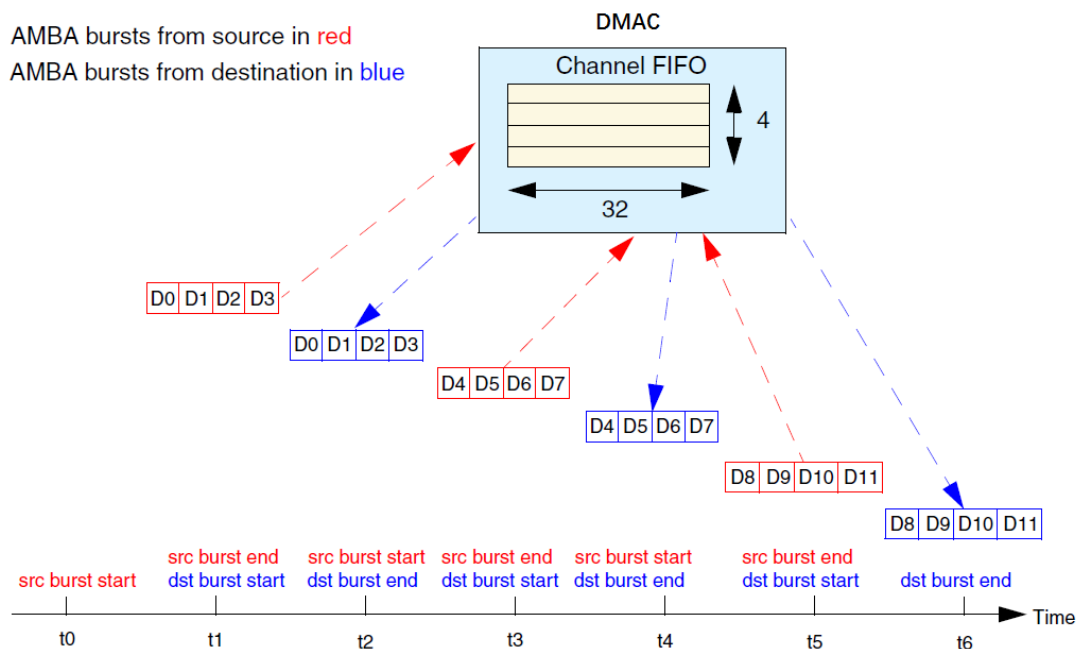

Fig 9-17 Breakdown of Block Transfer
Using equation (5), a total of 48 bytes are transferred in the block; that is, $blk_size_bytes_dma = 48$. As shown in Fig 9-17, this block transfer consists of three bursts of length 4 from the source, interleaved with three bursts, again of length 4, to the destination.
The block transfer consists of six bursts of length 2 from the source, interleaved with six bursts – again of length 2 – to the destination, as shown in Fig 9-17. The channel FIFO is alternatively filled by a burst from the source and emptied by a burst to the destination, until the block transfer has completed. In this example, a transfer of each source or destination burst transaction is made up of two bursts, each of length 2.